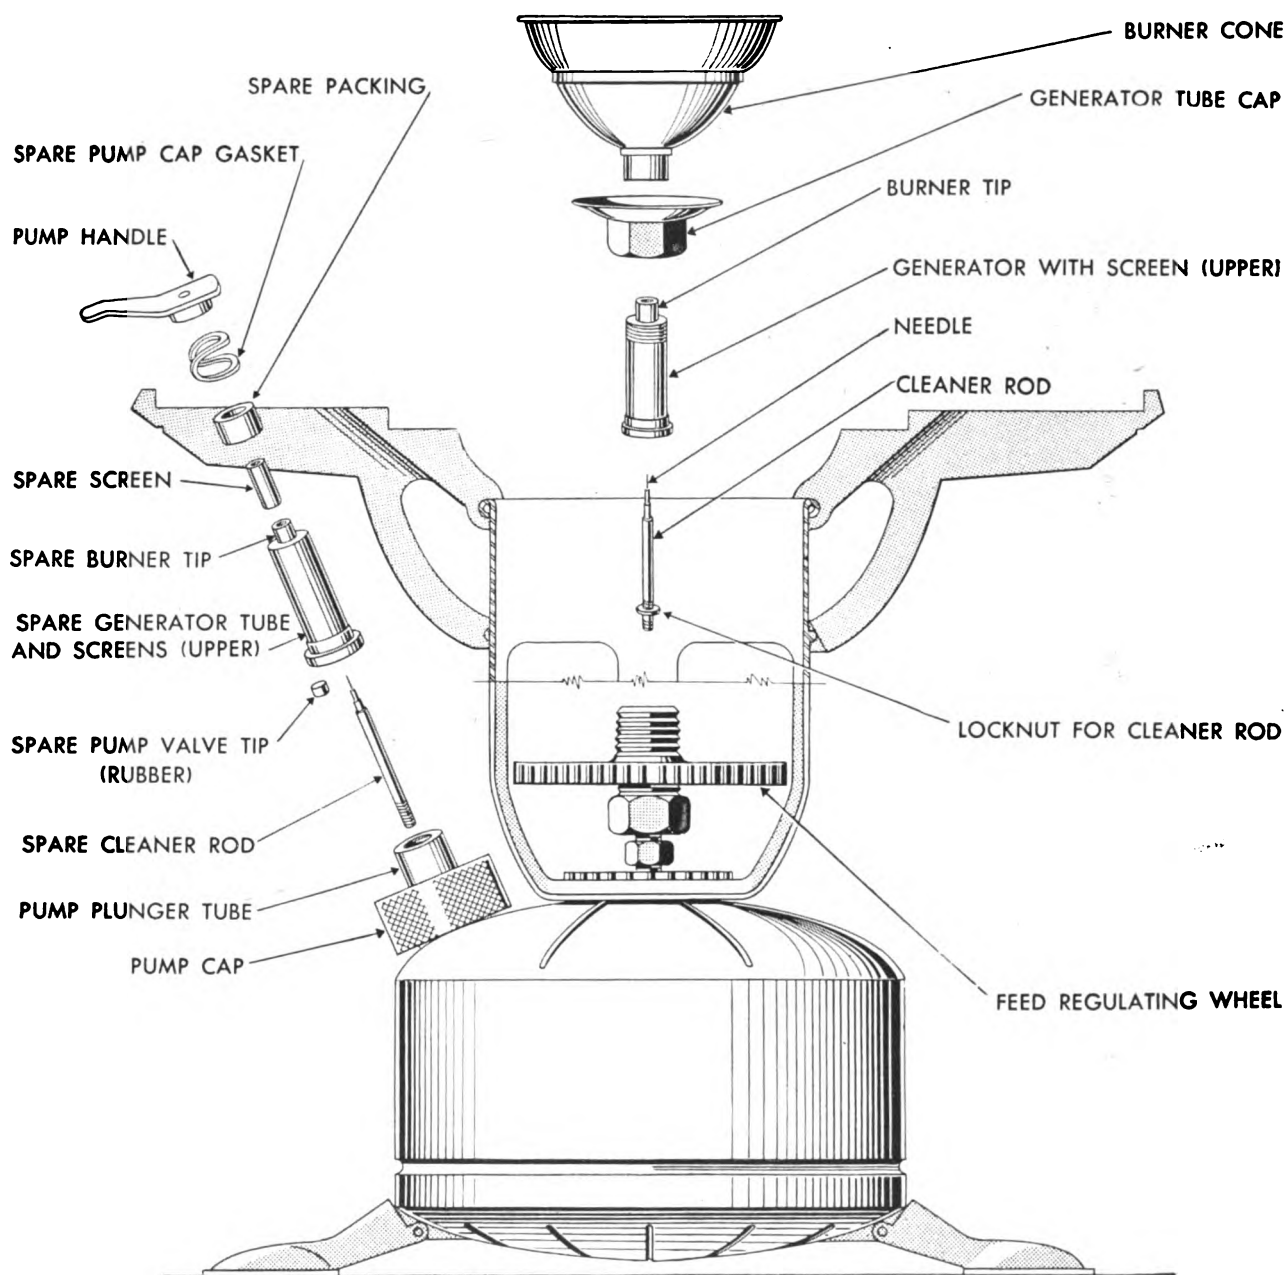

Figure 4. Detail of pump and burner assembly, stove, cooking, gasoline, M1942, one-burner.
c. Turn the wheel to the left until it stops, closing the valve. (See fig. 4.)
g. Pump air until the flame burns brightly. Later the heat of the flame may be reduced by turning the wheel to the right until the cleaner needle (see fig. 4) enters the opening in the burner.